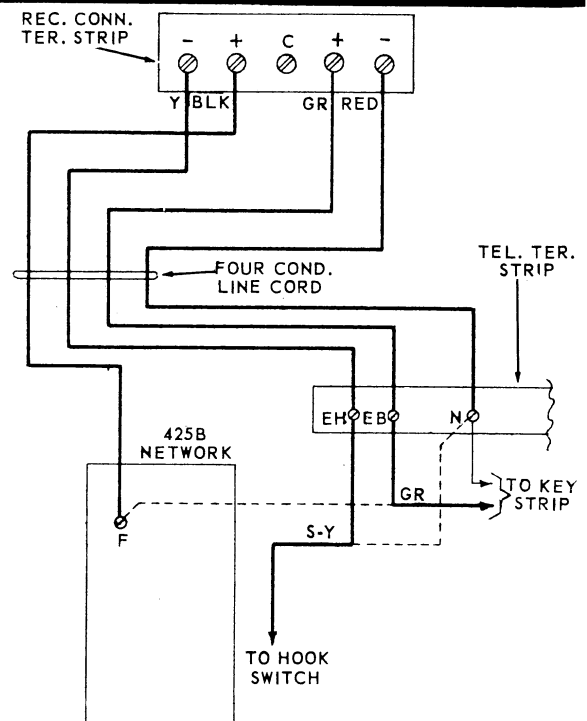

Fig. 7 1A & 10A Modifications of Type 500 Key Telephone.
3.07 Modify the 500 telephone set with 1A and 10A wiring per Fig.7.